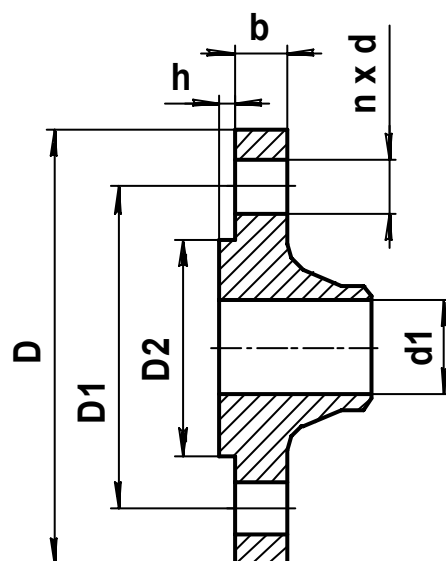

Figure A.2 Outline dimensions of connection kit flanges
**A.2.1****A.2.2****Figure A.2 Outline dimensions(M type sensor)**